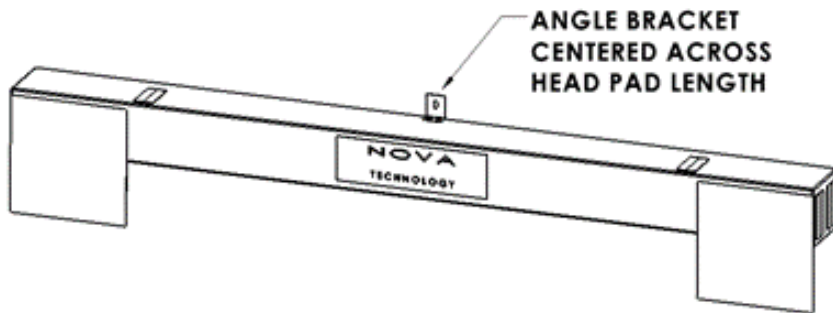
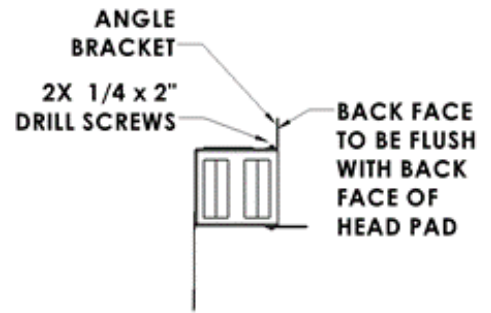

FIGURE 12
FIGURE 13
- b. Mount (1) Angle Bracket (I) to the top side of the Head Pad (E) centered across the length of the Head Pad. The back face of the Angle Bracket is to be flush with the back face of the Head Pad (Figure 12 & Figure 13). Ensure the new screw locations are not in line with the existing screws on the top side of the Head Pad.